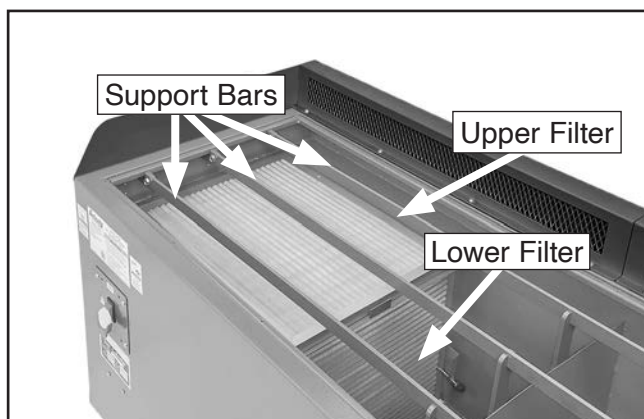

Figure 20. Support bars before removal.
2. Remove table plate and all three support bars (see **Figure 20**).